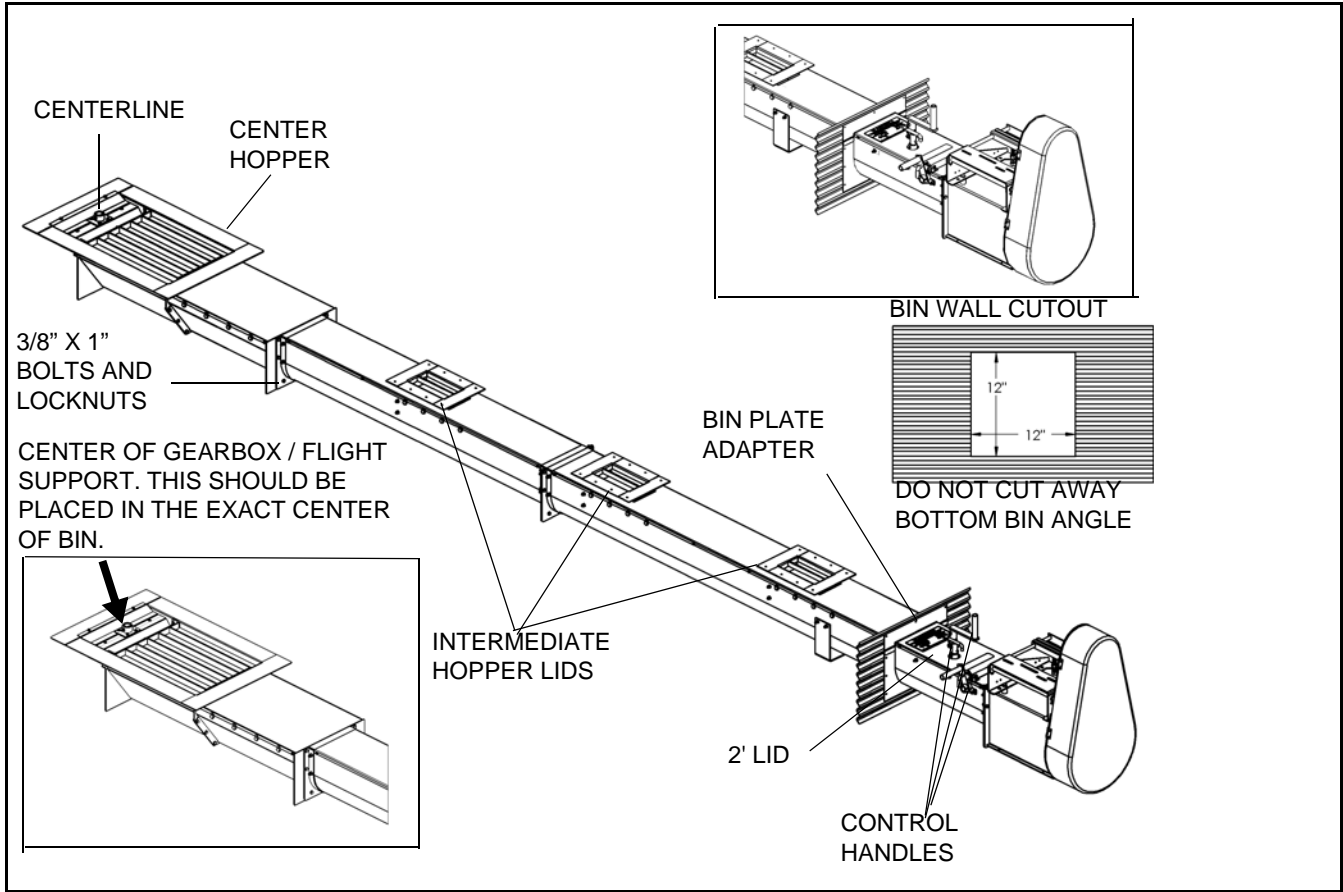

Figure 3.4
2. EXACT CENTER OF BIN should line up with center of gearbox shaft protruding from center hopper (see Figure 3.4).
7. Now you can finish installing the aeration floor (use Figure 3.4 for reference). Floor planks should run perpendicular to the trough and auger.